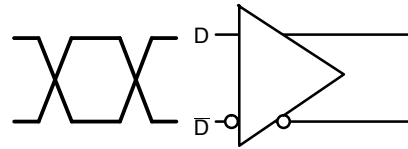

Figure 15. Differential Inputs Driven Differentially
**DIFFERENTIAL INPUTS DRIVEN DIFFERENTIALLY** (Figures 15, 17) (Note 15)
**DIFFERENTIAL INPUTS DRIVEN DIFFERENTIALLY** (Figures 15, 17) (Note 22)